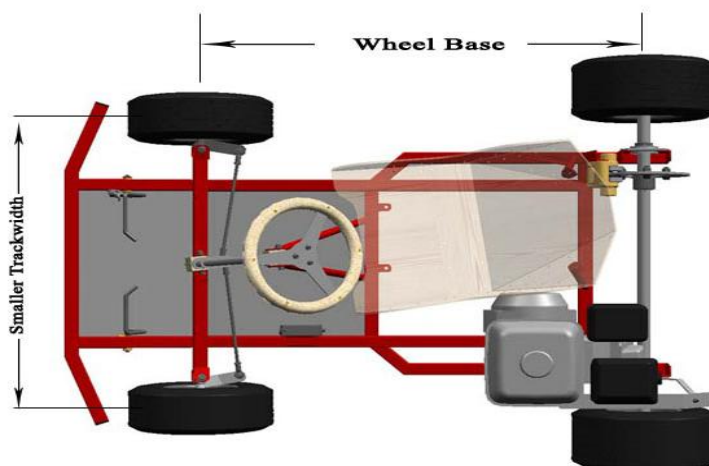

Figure-1
- 2.3. Wheelbase and Track Width-** The wheelbase of the vehicle must be between 42-55 inches and the smaller track width (front or rear) must be no less than 80% of the wheelbase of the vehicle. Refer to the figure-1